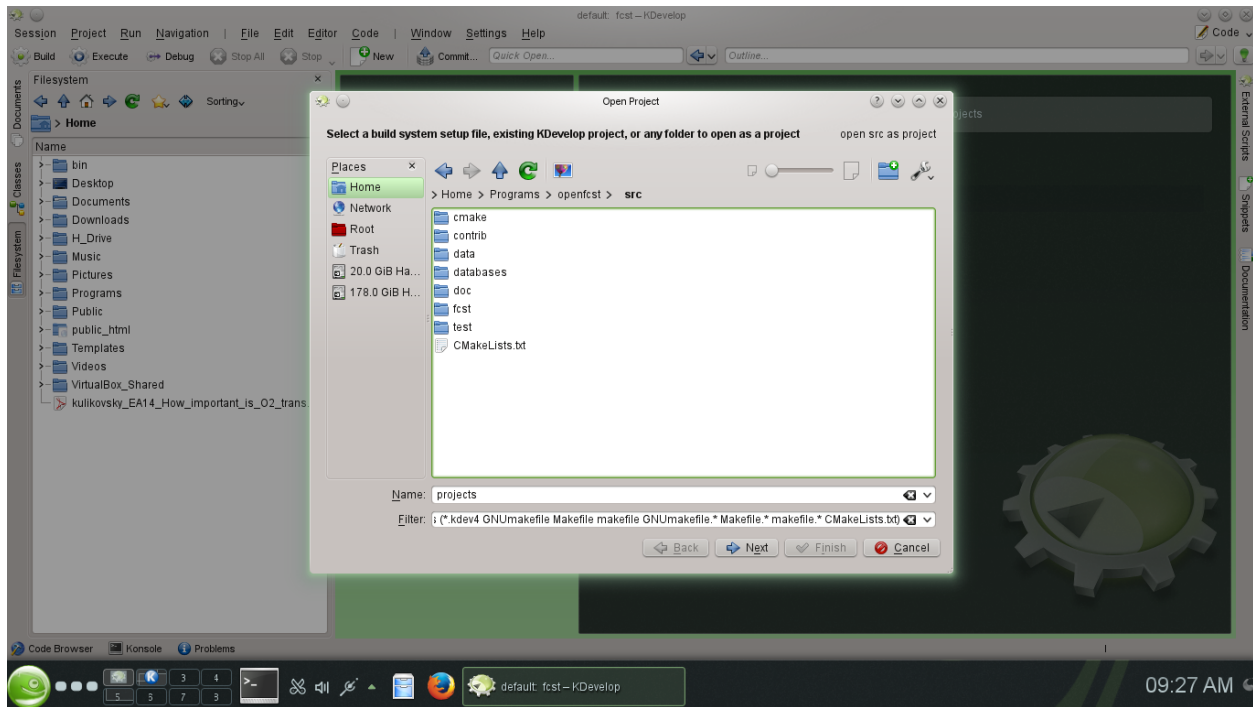

Figure 7.1: Initial window in KDevelop to import a CMake project.
- Go to **Project > Open/Import Project...** Go to the OpenFCST folder, enter the `src` folder and then, select the `CMakeLists.txt` file in `openfcst/src` (see Figure 7.1). In the next window, enter the name of the project, e.g. OpenFCST, and select **CMake Project Manager**. At this point, the project should either appear or prompt another window asking for the Build folder. If the latter is the case, point KDevelop to the Build folder in the main folder of OpenFCST. Then, the project import is complete and the project menu will appear on the left hand side.